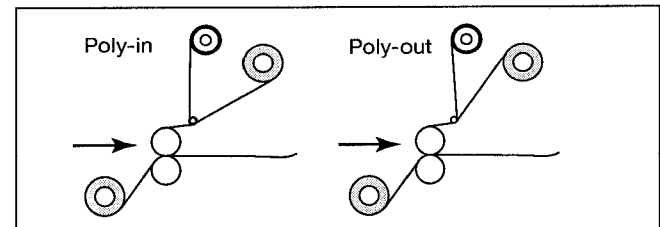

Fig. 6-17. Configurations for Poly-in and Poly-out Films.
This two pass operation requires pressure sensitive laminating film on the top supply shaft and pressure sensitive mounting film on the bottom supply shaft. Refer to Fig. 6-17 for the proper configuration of Poly-in or Poly-out film.
- Refer to Fig. 6-17 for the proper film configuration.